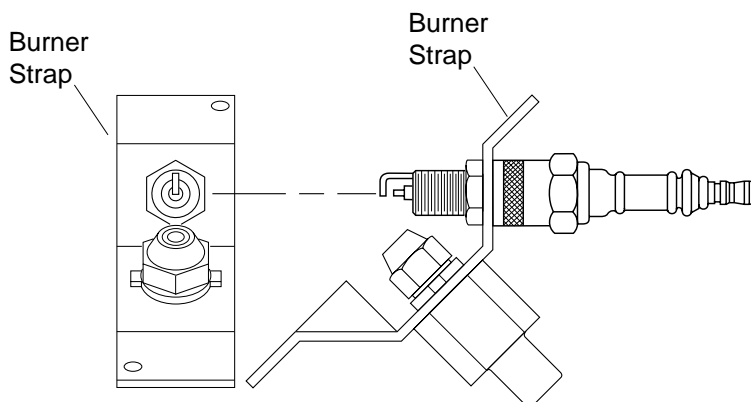

Figure 17 - Spark Plug Rotation, 8,8 kW (30,000 Btu/Hr) Model Only
10. Replace burner strap onto spark plug. Rotate burner strap to position spark plug electrodes (see Figure 17).